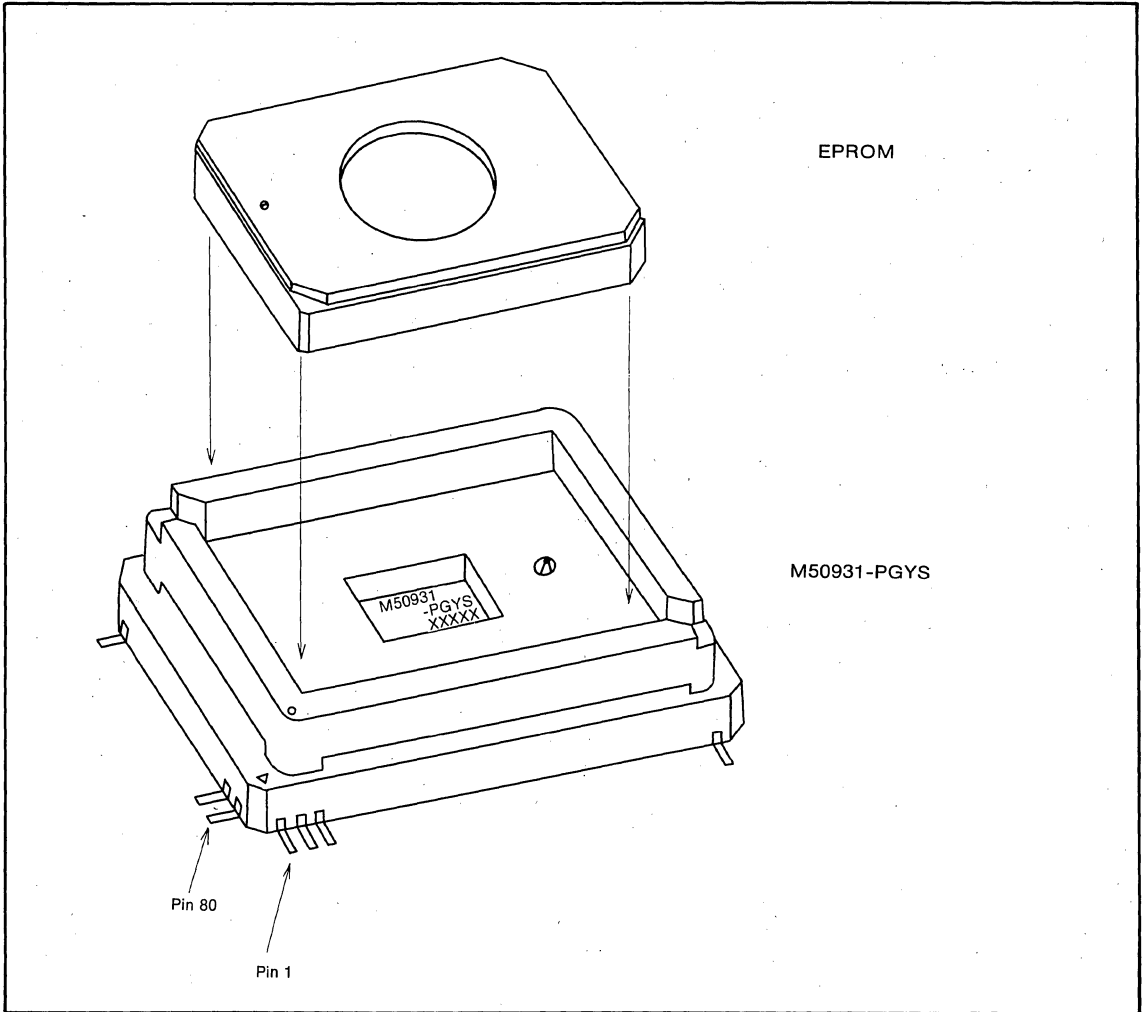

Fig.3 How to mount an EPROM
(2) The M50931-PGYS has no options as the M50930-XXXFP, M50931-XXXFP and the M50932-XXXFP. The condition of ports P0~P3 and CNTR is noted below.
(3) The way of mounting an EPROM is shown in Figure 3.